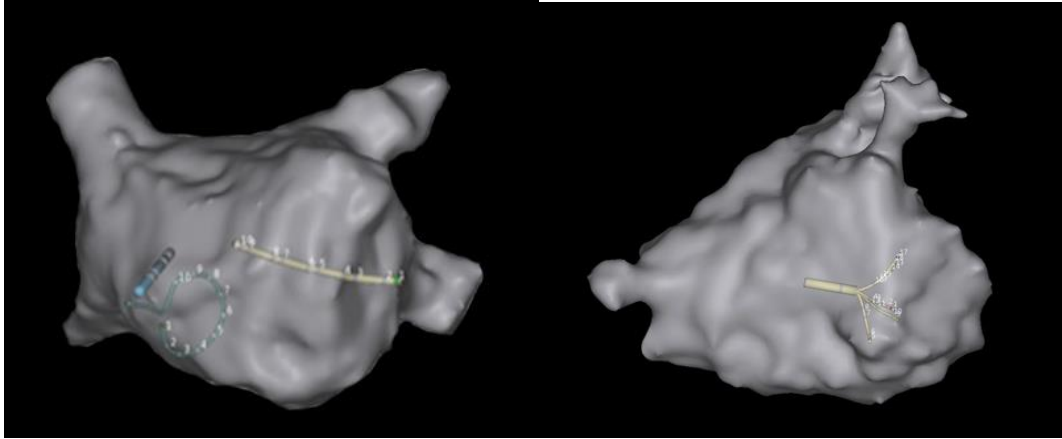

Figure 10-27 Circular Lung Mapping Catheter Modeling Figure 10-28 Density Mapping Catheter Modeling
- When HD-M is selected in the Stability Status column, a three-dimensional cardiac chamber model can be constructed in real time using a loop lung mapping catheter or a high density mapping catheter (Figure 10-27, Figure 10-28).